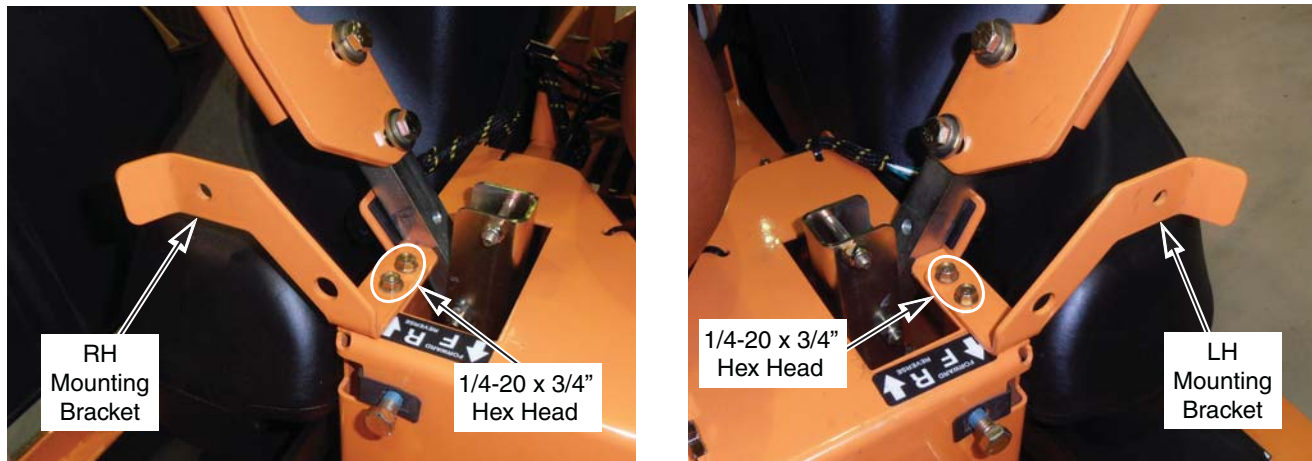

Figure 2. Install RH & LH Mounting Bracket(s)
3. Install the RH & LH light mounting brackets and secure using the (4) four 1/4-20 x 3/4" self-tapping hex head screws supplied with this kit. Do not over-tighten hardware. See Figure 2, Page 2.